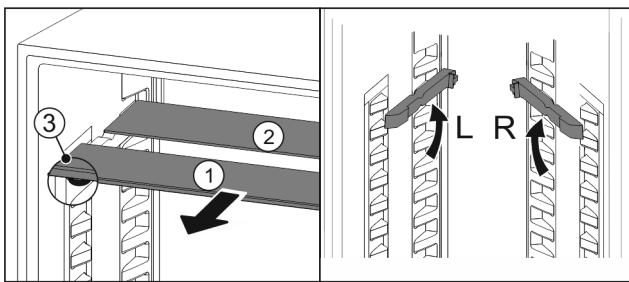

Fig. 149
- ▶ Pull the glass panels out Fig. 149 (1) from the front, one at a time.
- ▶ The glass panel Fig. 149 (1) and trim strip are at the front.
- ▶ The stops Fig. 149 (3) point down.